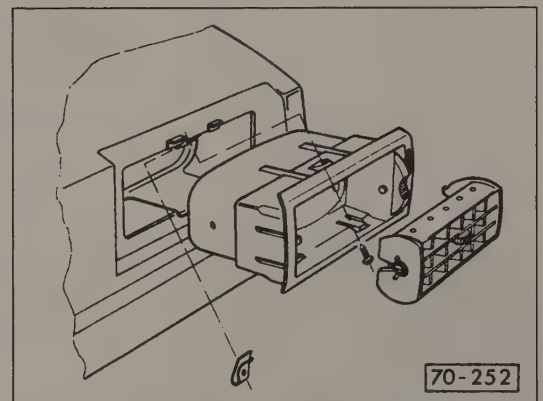

Fig. 4-9. Ventilation grille and related parts.
3. Pry out the left, center, and right ventilation grilles from their housings as shown in Fig. 4-9, then remove the retaining screws and the housings